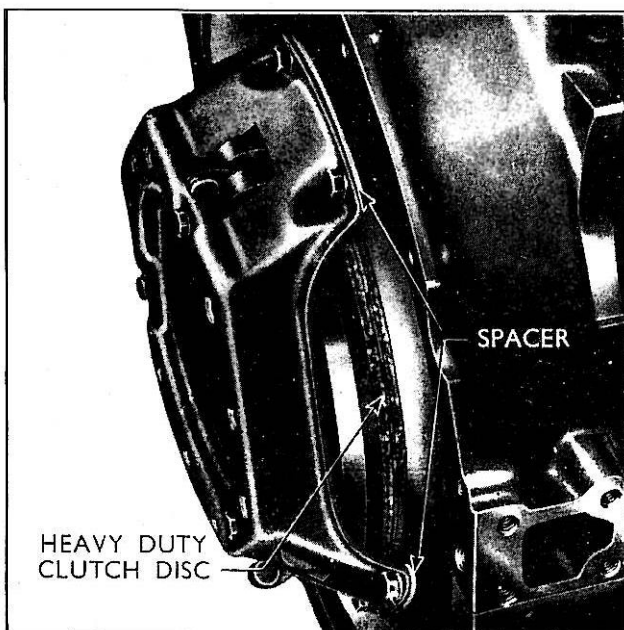

Fig. 148
- 2 Unscrew the six bolts securing the pressure plate to the flywheel to release the pressure plate and clutch disc. In the case of the heavy duty clutch (see previous page) do not lose the three spacers fitted between the pressure plate cover and the flywheel. (See Fig. 148.)